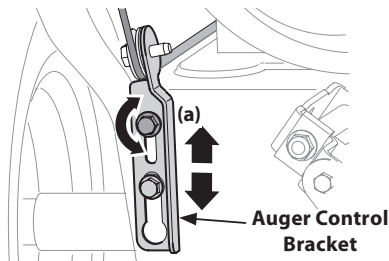
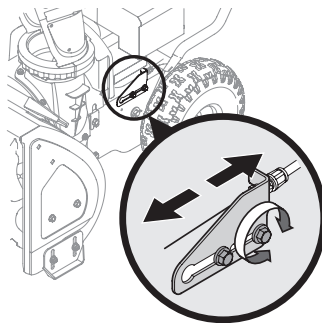

Figure 2-56
Figure 2-57
4. Allow auger to remain engaged for approximately ten (10) seconds before releasing auger control lever. Repeat this several times.
7. To readjust the auger control cable, loosen upper hex screw (a) on all on units except the E-Z Chute™ unit auger control bracket. See Figure 2-56.
8. On E-Z Chute™ models, loosen the rear hex screw on the auger control bracket. See Figure 2-57.
9. Position bracket upward on all units except the E-Z Chute™, push the adjustment bracket forward on those units to provide more slack (or downward/rearward to increase cable tension). See Figure 2-56 or Figure 2-57 depending on your unit.